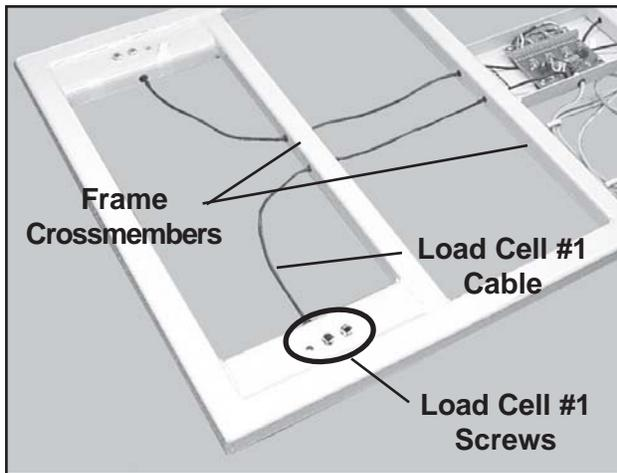

Figure 51. Removing Load Cell #1 Cable from the Frame Crossmembers
6. Pull the load cell cable out through the two frame crossmembers (Figure 51).
3. Route the cell cable through both frame crossmembers to the summing board (Figure 51). **Note:** If you have difficulty in passing the cable through the holes in the crossmembers, try this: